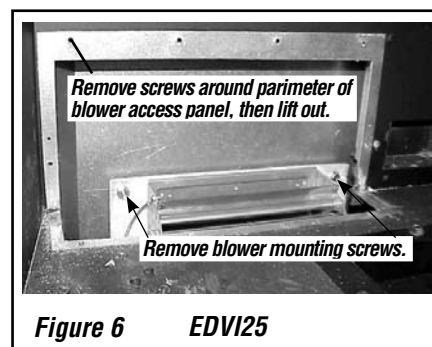

Figure 6 EDVI25
6. (EDVI25 only) Remove blower access panel (see **Figure 6**).
7. (EDVI25 only) Remove the two blower mounting screws and remove the blower (see **Figure 6**).